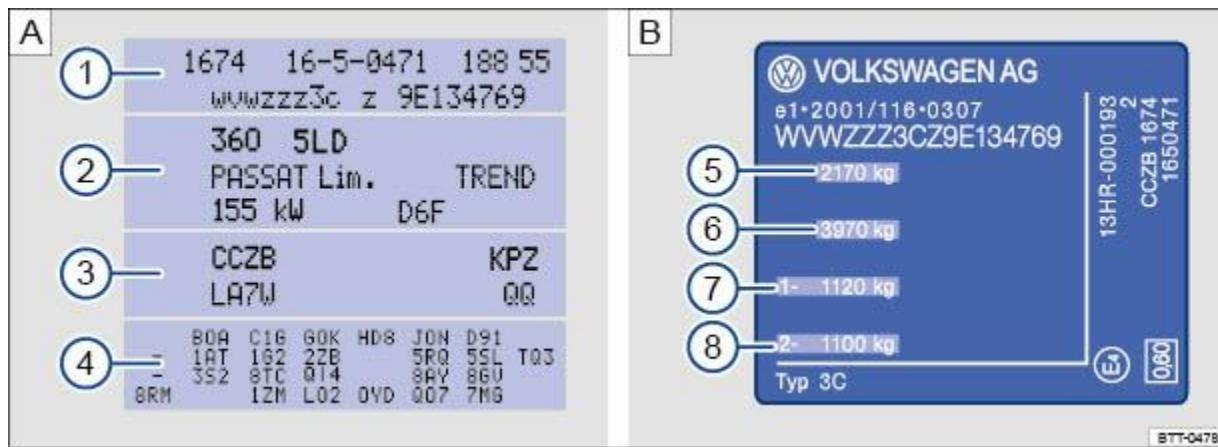

Fig. 215 : vehicle data sticker: example shows a vehicle with engine code CCZB ③. : type plate.
The vehicle data sticker ⇒ Fig. 215 **A** is located on the cover of the owner's manual and under the rear luggage compartment trim on the luggage compartment wall. It contains the following data:
- ① Vehicle identification number (chassis number)
- ② Vehicle type, engine power, gearbox type
- ③ Engine and gearbox codes, paint number, interior equipment. In the example, the engine code is CCZB ⇒ Fig. 215 **A**.
- ④ Additional equipment, PR numbers
The type plate ⇒ Fig. 215 **B** can be seen on the lower part of the door pillar when the driver door is open. Vehicles for certain export countries do not have a type plate.